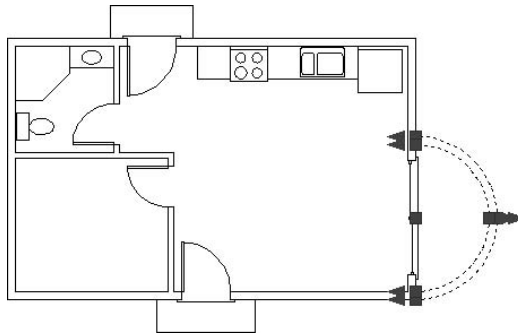

FIGURE 6.13: The balcony arcs, selected and displaying their grips
1. In the drawing, pick the two arcs of the balcony. Grips appear on the arcs, and the lines ghost. This signals that the lines have been selected (see Figure 6.13).